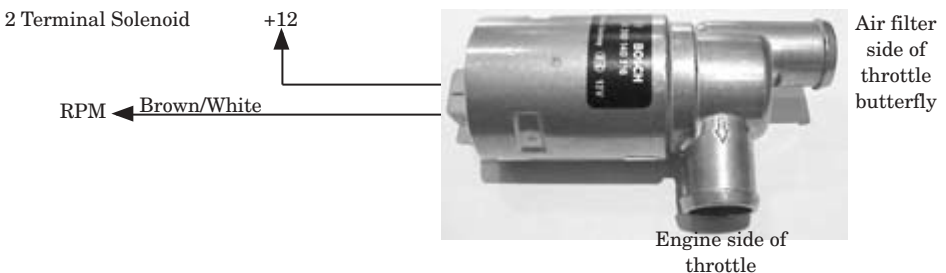

Fig 3.32
**Solenoid Control Using RPM Drive:** There is 1 pin to control a 2 wire (ISC) solenoid. Figure 3.32 is a 2 terminal.
Connect one terminal to a switched +12V supply and connect the remaining terminal to the RPM wire. See Figure 3.32. The orientation of these wires do not matter.